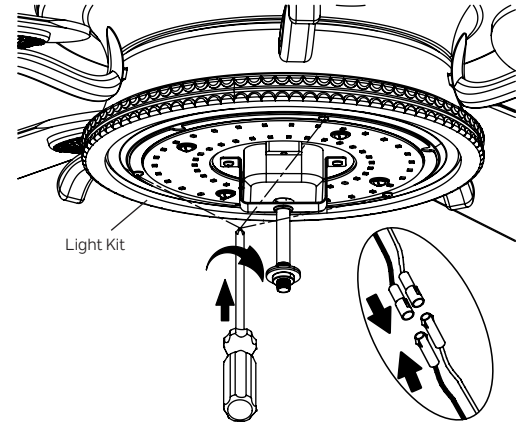

Fig. 24
Step 1. Hold the LED light kit to light plate, then connect the 2 single pin connectors from the light kit to the 2 single pin connectors from the motor assembly. Connect the black wire to the black wire, and white wire to the white wire. Attach the light kit to the light plate and securely tighten with three (3) screws from the screw pack (Fig. 24)